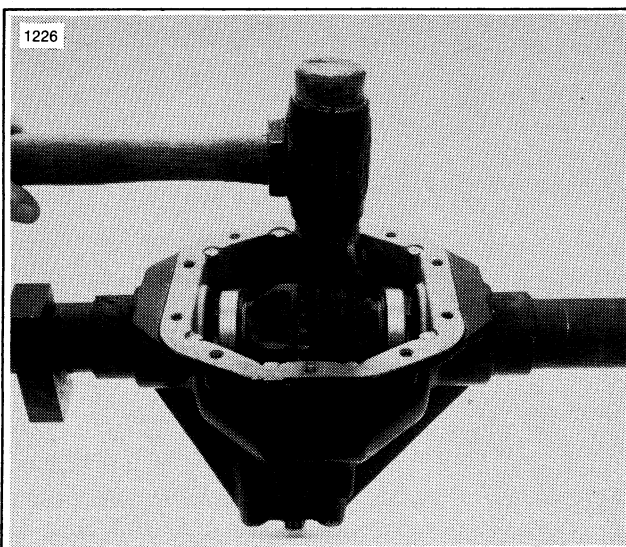

Figure 3-27. Seating Differential Case Assembly
13. Install differential case assembly (6) along with bearing cups (7) into housing aligning ring and pinion gears to avoid nicking teeth. Tap ring gear lightly with soft hammer to seat case assembly, in housing (Figure 3-27).
14. Install bearing caps (5) making sure the letter stamped on them corresponds to the letter on the